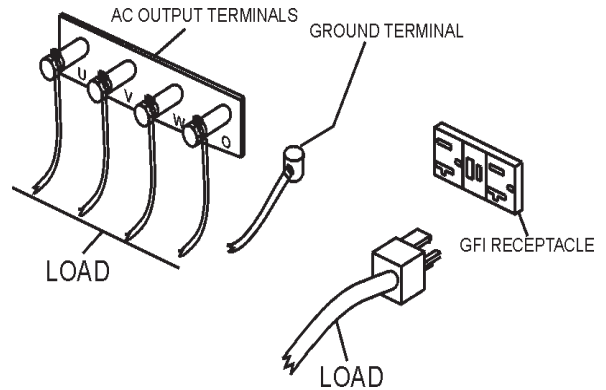

Figure 35. UVW Terminal Lugs (Load)
2. Connect the load to the UVW terminals as shown in Figure 35. These terminals can be found on the output terminal panel, (see page 29 Figure 10). To gain access to the output terminals lift the UVW cover. Tighten terminal nuts securely to prevent load wires from slipping out.